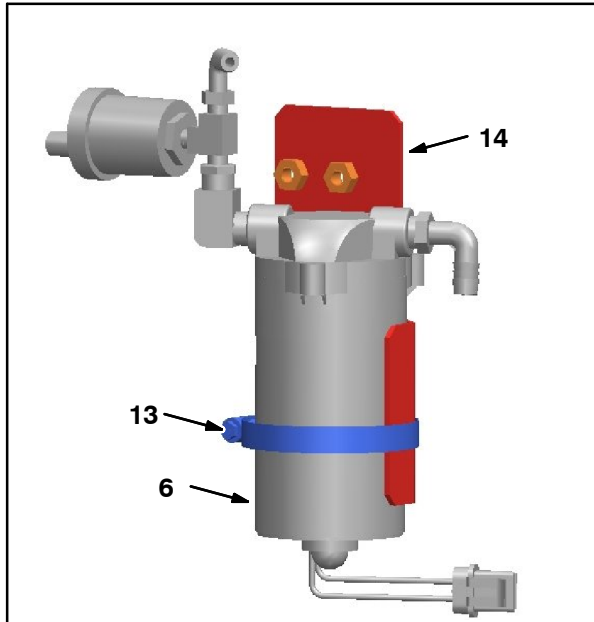

FIG. 4
2. Use the hose clamp (13) to install the solution pump (6) onto the pump bracket (14). Tighten the hose clamp enough to hold the solution pump firmly into place on the pump bracket. Refer to Fig. 4.